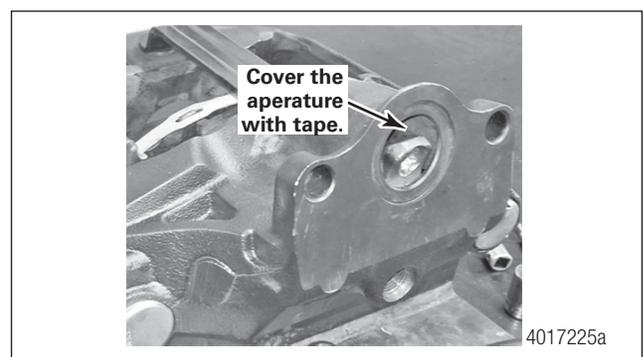

Fig. 8.3 Air Chamber Mounting Aperture
STEP 5 - Cover the exposed air chamber mounting aperture with tape to prevent debris from entering the caliper housing assembly. Figure 8.3.